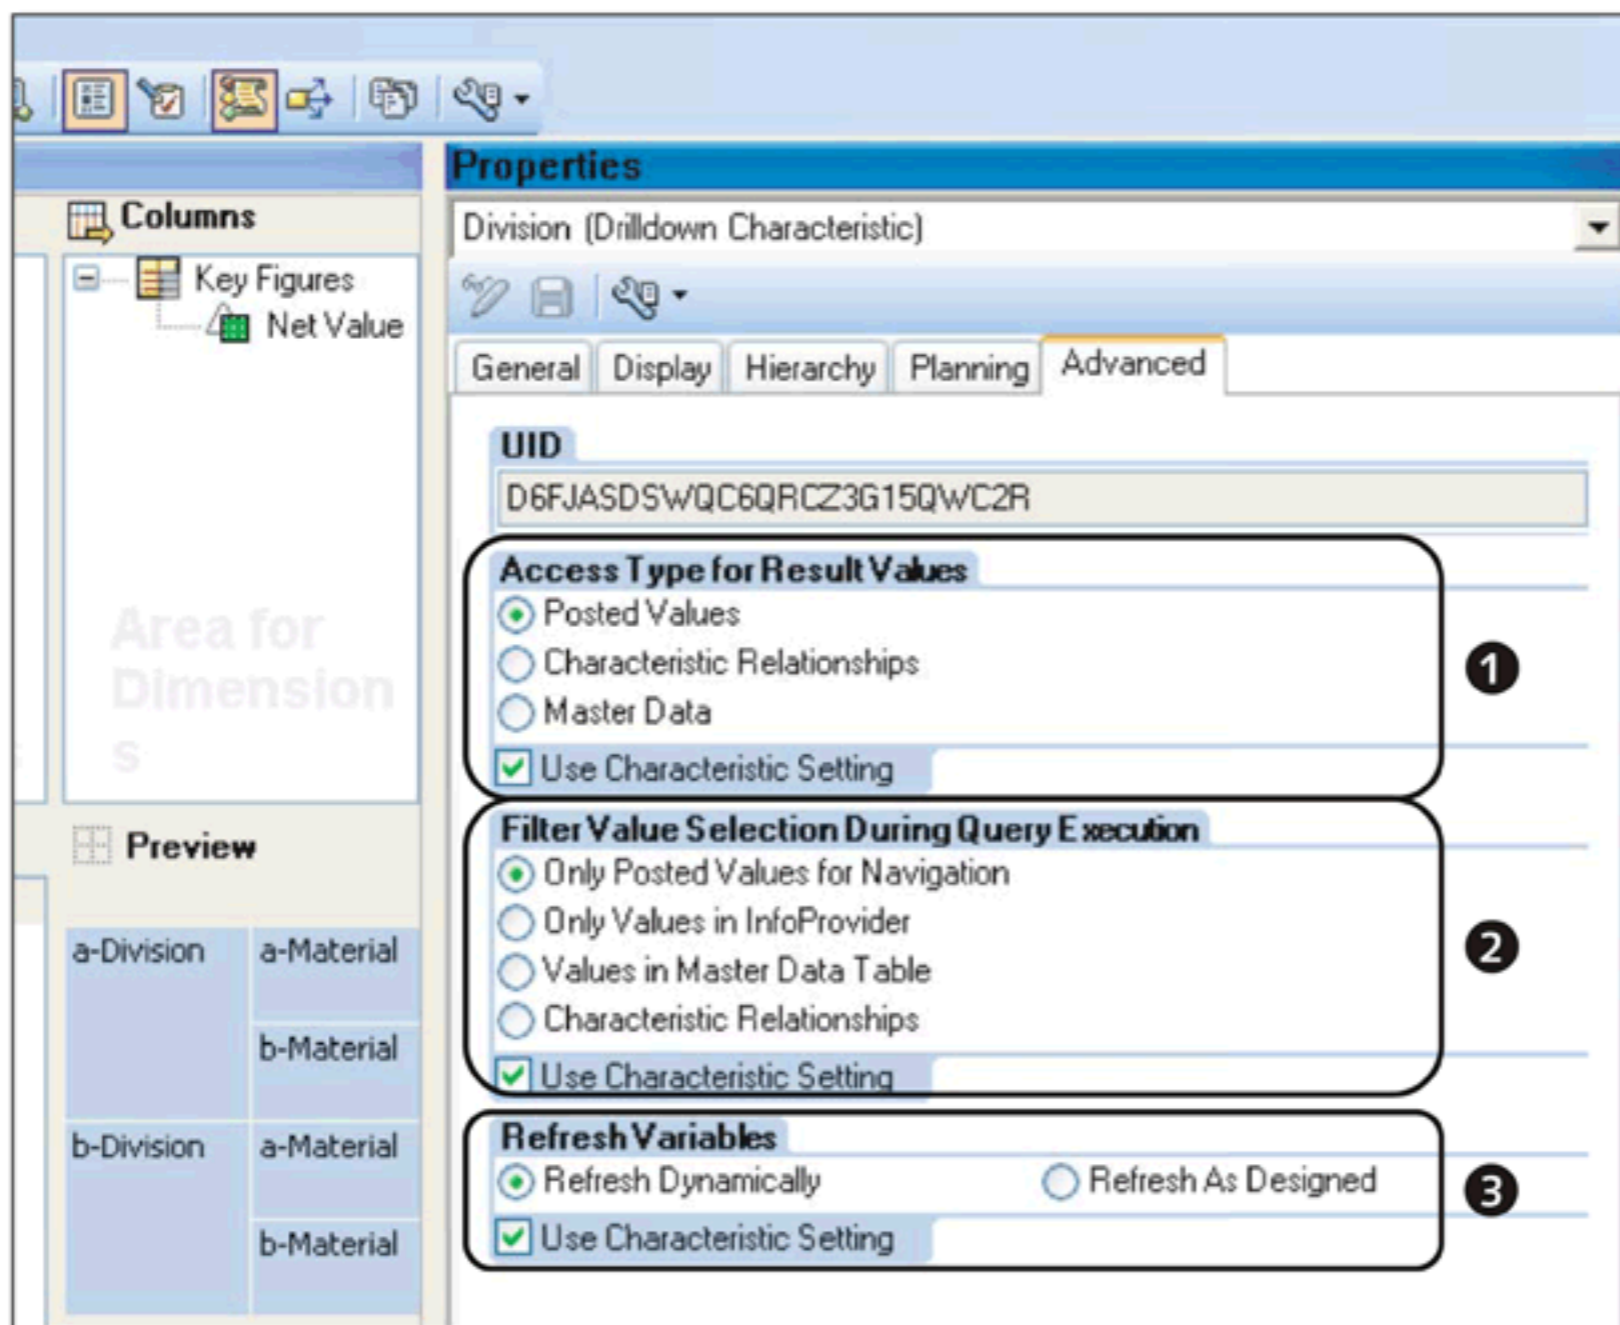

Figure 9.70 Characteristic Properties: Advanced Tab
The properties related to data access and data selection are maintained on the ADVANCED tab of the characteristic properties (see Figure 9.70).
Under the ACCESS TYPE FOR RESULT VALUES section (❶ of Figure 9.70), you can define what values of the characteristic should be displayed in the query output. These options are explained here:
Similarly, in the FILTER VALUE SELECTION DURING QUERY EXECUTION (❷ of Figure 9.70), the setting determines the list of values you would get while selecting a filter value during query execution. You can also make variable refresh settings under the section shown in ❸ of Figure 9.70.